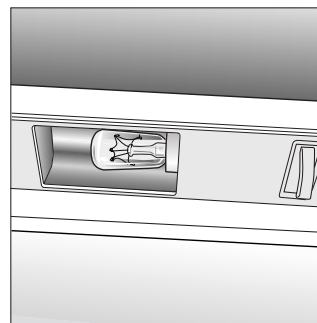

Fig. 2
- Replacing the light bulb. Unscrew the burned out bulb and replace it with another bulb with a wattage no higher than 15 Watt (fig. 2).